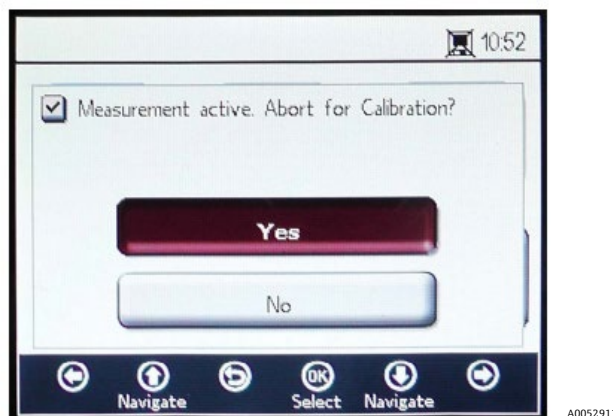

Figure 58. Message window - Stop measurements for calibration
2. Click **OK** to perform a Relative Accuracy Test Audit (RATA). This will open a message window with the question, “Measurement Active. Abort for calibration?” Refer to Figure 58.